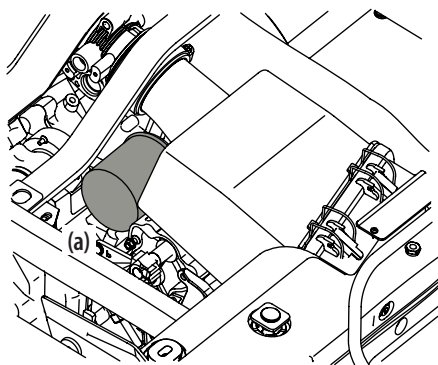

Figure 5-22
3. Remove the oil filter (a). See Figure 5-22.